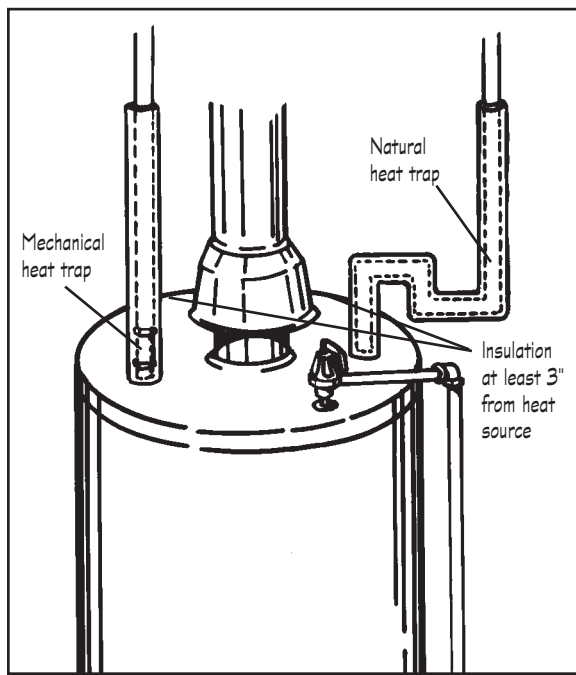

Figure 6
**Heat traps.** Heat traps may be natural or mechanical, and may reduce the amount of heat lost when water isn't being used by 12 percent. Some new heaters have them installed at the factory. The natural trap is a piece of tubing bent in the form of a "U." (Figure 6.) Mechanical traps are available with a ball type check valve.